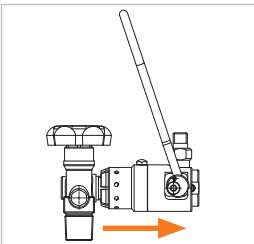

Figure 13
- ▶ Pull the connector **straight** back (Figure 13). Doing so will prevent any damage to the front seal caused by any sharp edges on the cylinder valve.